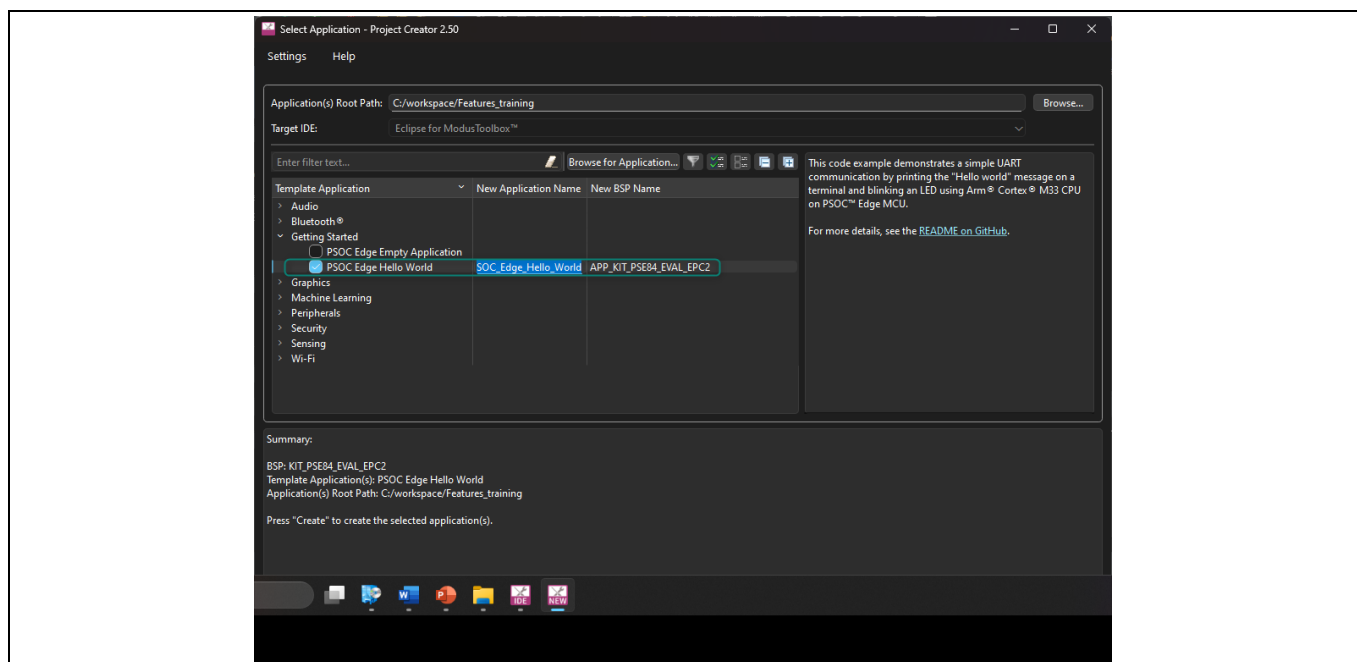

Figure 32 Selecting application
- A new window opens to select an application. The Project Creator includes categories and a search field to make it easier to find and select different examples. Click the **checkbox** near the application, optionally rename the project, and then click **Create**. Figure 32 shows the creation of the **PSOC™ Edge Hello World** application under the **Getting Started** section